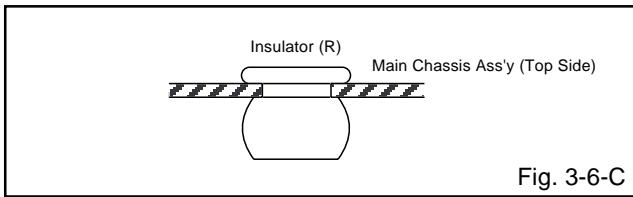

Fig. 3-6-C
3-6: TRAVERSE HOLDER/INSULATOR (F)/INSULATOR (R) (Refer to Fig. 3-6-A)
2. Remove the 2 Insulator (F).
3. Remove the Insulator (R).
1. In case of the Insulator (F) installation, install correctly as Fig. 3-6-B.
2. In case of the Insulator (R) installation, install correctly as Fig. 3-6-C.